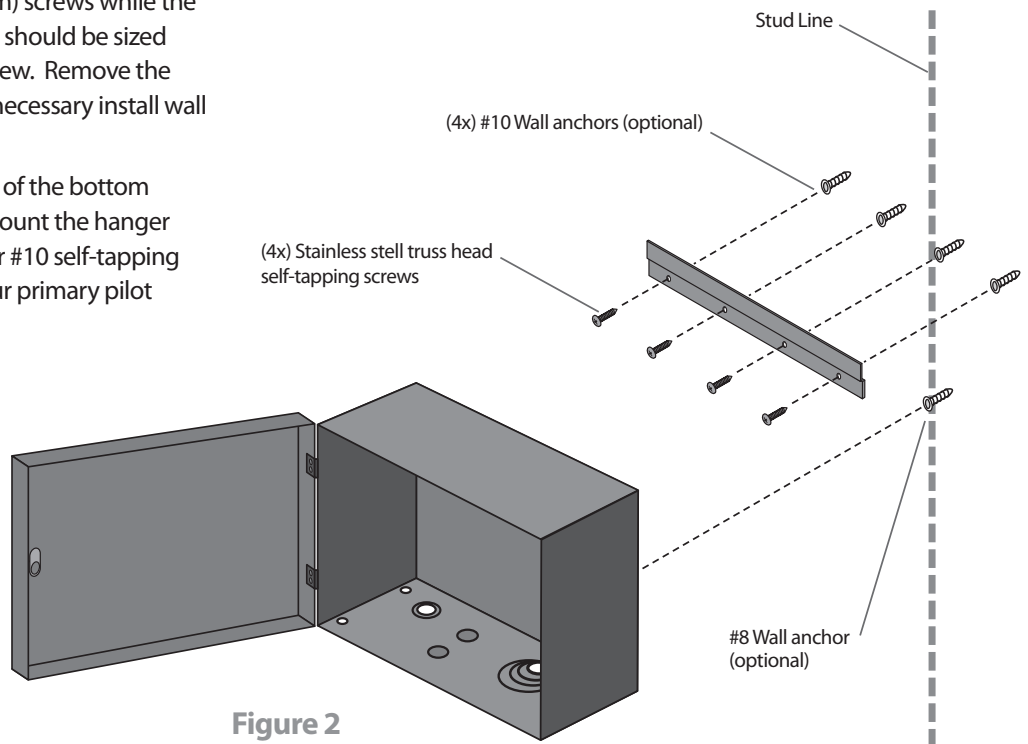

Figure 2
3. Ensuring proper alignment of the bottom notch with the wall stud, mount the hanger bracket (included) with four #10 self-tapping screws (included) to the four primary pilot holes (see Figure 2).